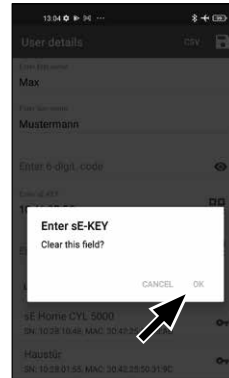

Fig. 60
- 2 A message will then appear prompting you to confirm (Fig. 60). Tap on "OK".